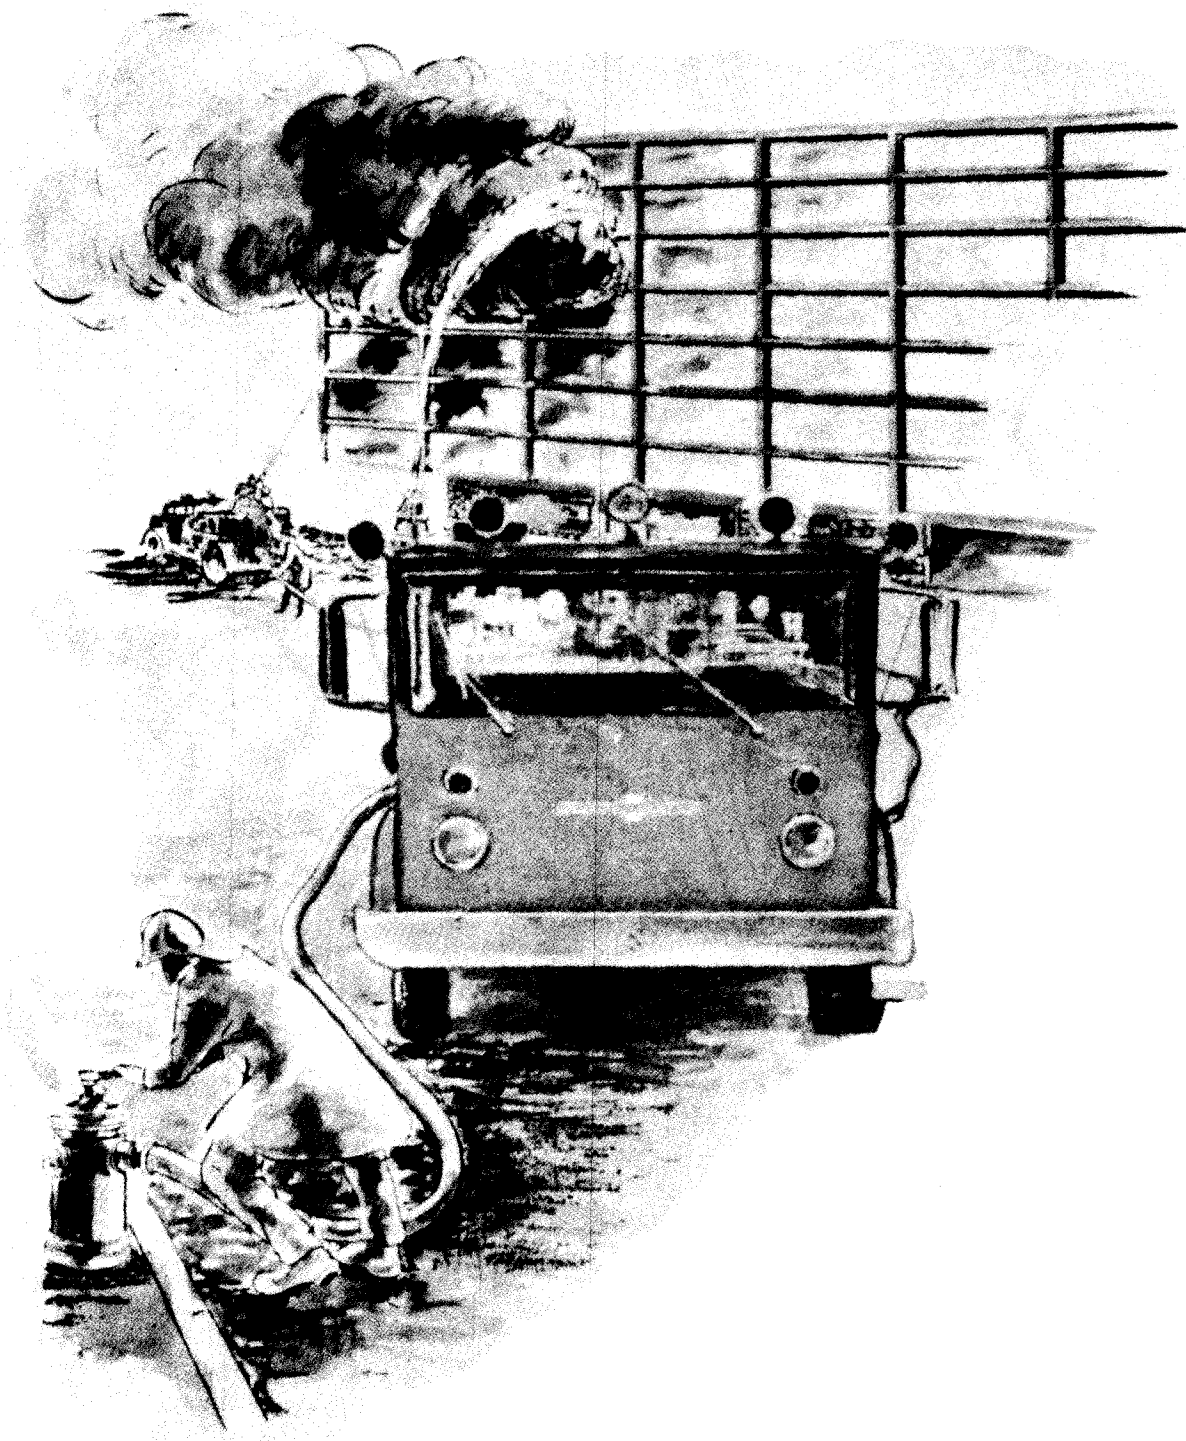

Figure 4-46. Looking in on a ladder.
e. Locking in on a ladder means simply placing the leg between two rungs and bringing the foot back out between the next lower rungs and locking the foot either around the rung or around the beam (fig. 4-46). This leg lock enables the man on the ladder to work with both hands free to handle hose, ladders, and tools. Men should anchor themselves to a ladder with a rope hose tool or a safety belt only when one position must be kept for a long time. Short men are more comfortable when they lock one foot around the rung above the one